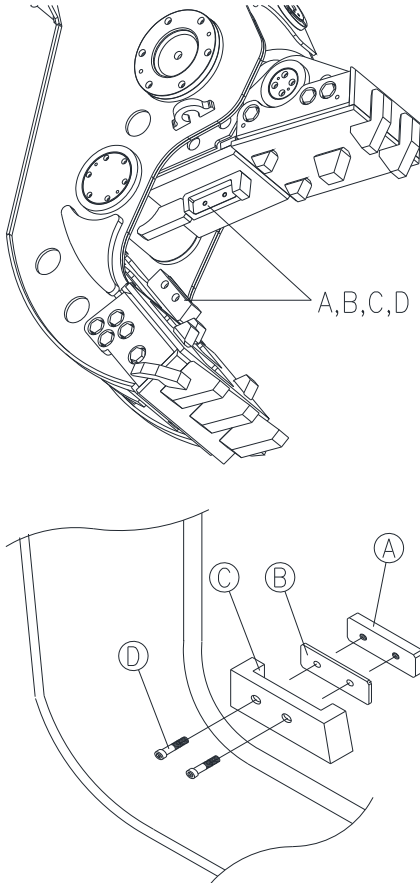

Fig 9-3 Cutting Blade, Shim, Base, Bolts
- Follow a crisscross pattern (Fig. 9-3) and partially tighten all bolts to 1/3 of the specified torque.